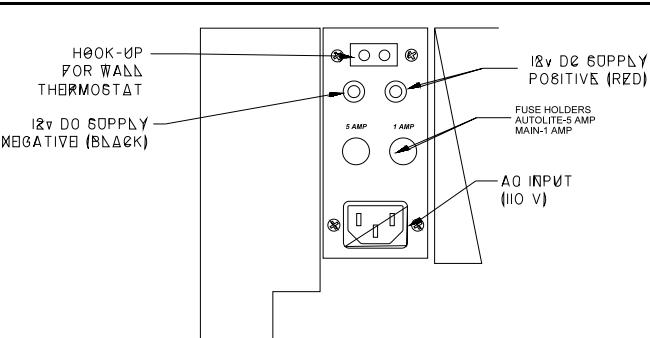

Figure 7 Rear Connection Panel
The following is a step by step procedure for installing the optional wall thermostat. Note connection terminals on left side of unit at rear (**Figure 7,8**). Use 18/2 thermostat wire for the installation.
- Remove factory jump wire and hook up thermostat wires to terminals (**Figure 7,8**).